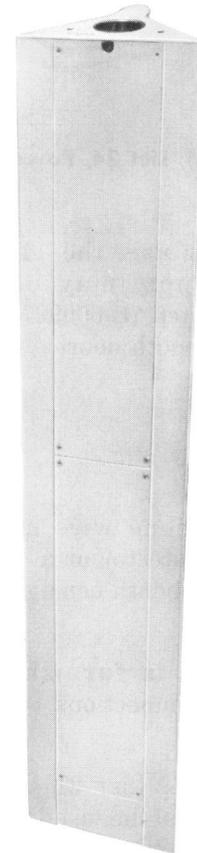

Fig. 5—KS-19425, List 25 Lower Backboard Plate and Cover Assembly
2.13 For underground or ground level power entrance, order a KS-19425, List 25 lower backboard plate and cover assembly (Fig. 5) plus the following items if a circuit breaker is required: